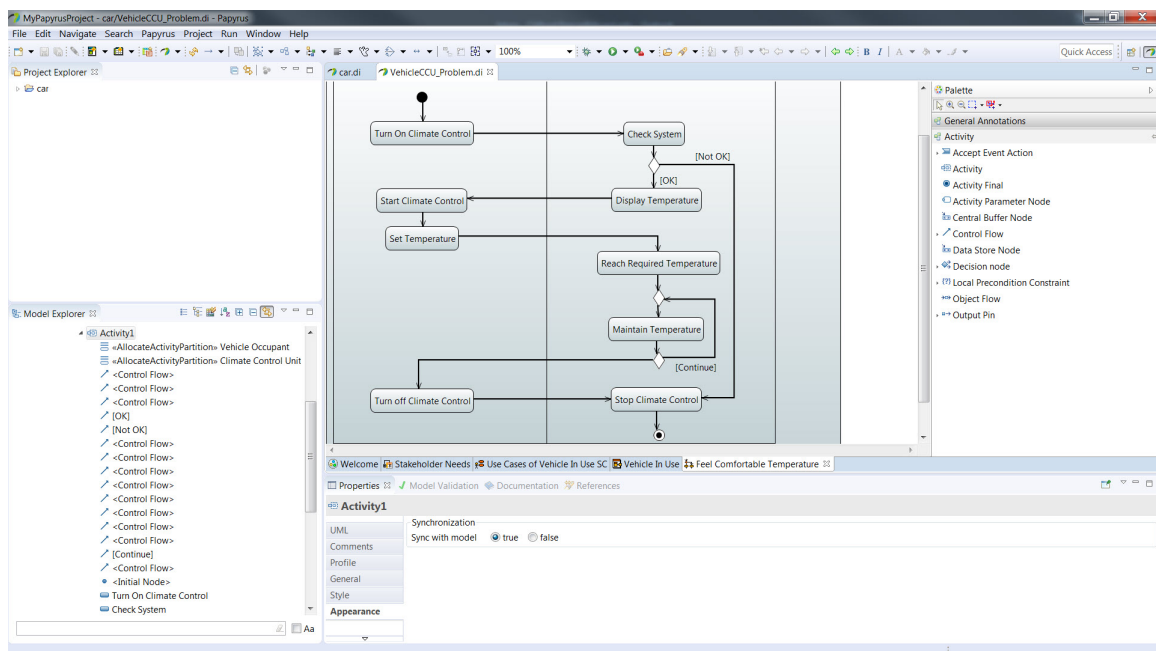

Figure 56: Final Control Flows
25. To complete our control flows for this simple example we need to add a couple more decision nodes; One between the *Reach Required Temperature* action and the *Maintain Temperature* action and another below the *Maintain Temperature* action. We also need to add the remaining control flows. Use your skills from the previous steps to make your diagram look like (figure 56).